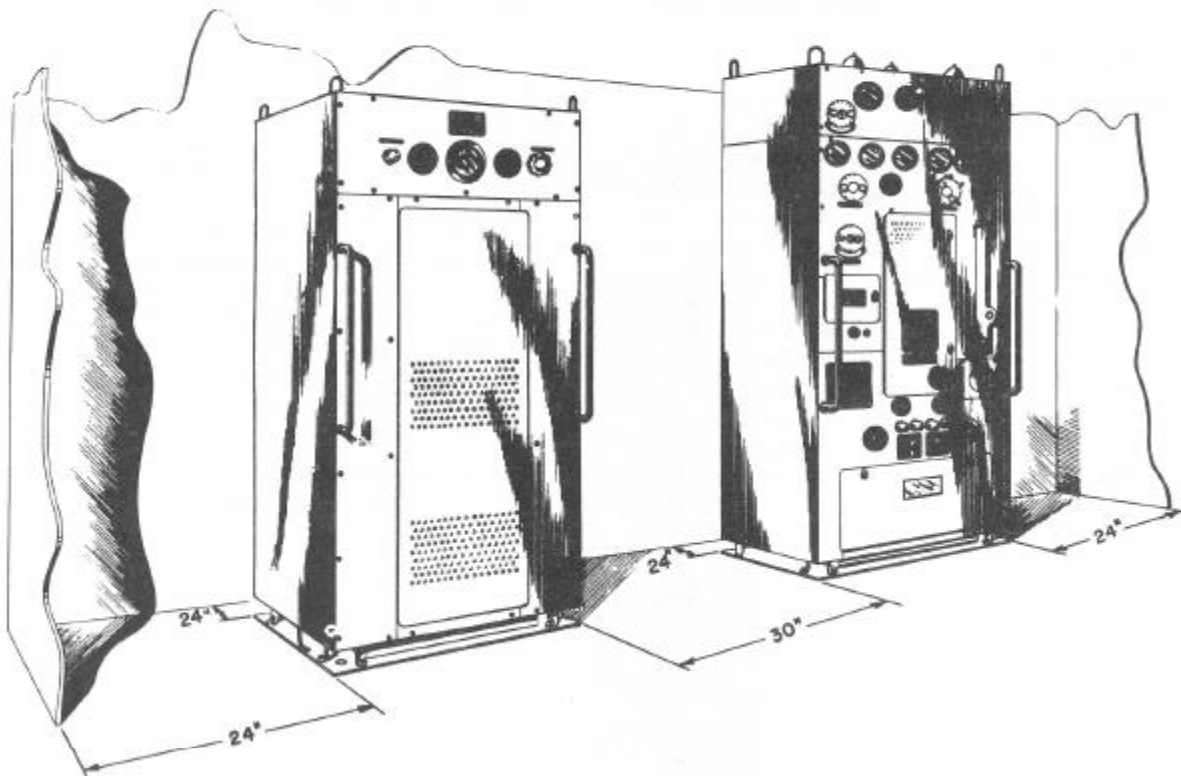

Figure 3-2 TCK Installation with Rectifier Unit
**f. Rectifier Unit Installation.**—The Rectifier Unit may be installed at one side of the Transmitter Unit, as shown in Fig. 3-2. A clearance of 18 to 24 inches between units is desirable so that they may be serviced without removing them from their mounted position.